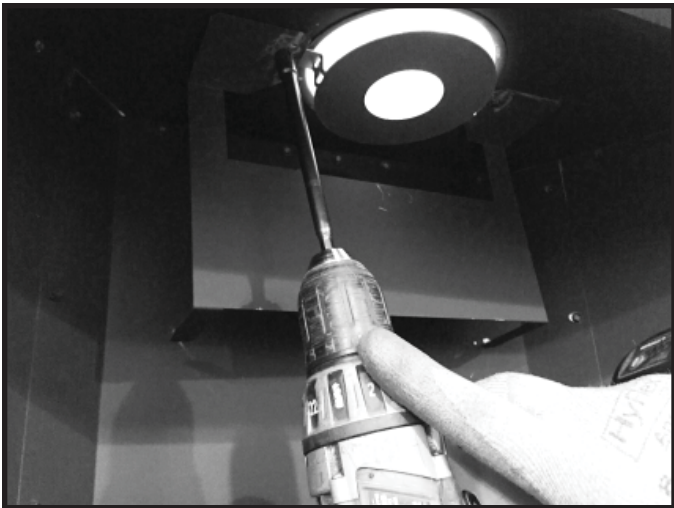

Figure 4.15 12 ft. to 30 ft. Vertical Run
- The top vent flue baffle will be turned to install below the level of the firebox top for 12-30 ft vertical runs of vent. See Figure 4.15